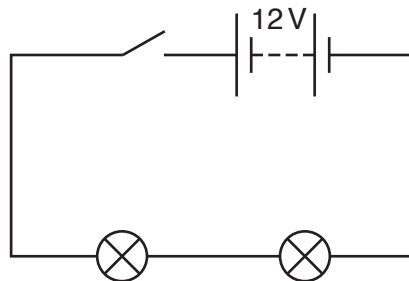

Fig. 3
- 3 Fig. 3 shows a circuit using two lamps. If one lamp fails, the other lamp will also fail to light.